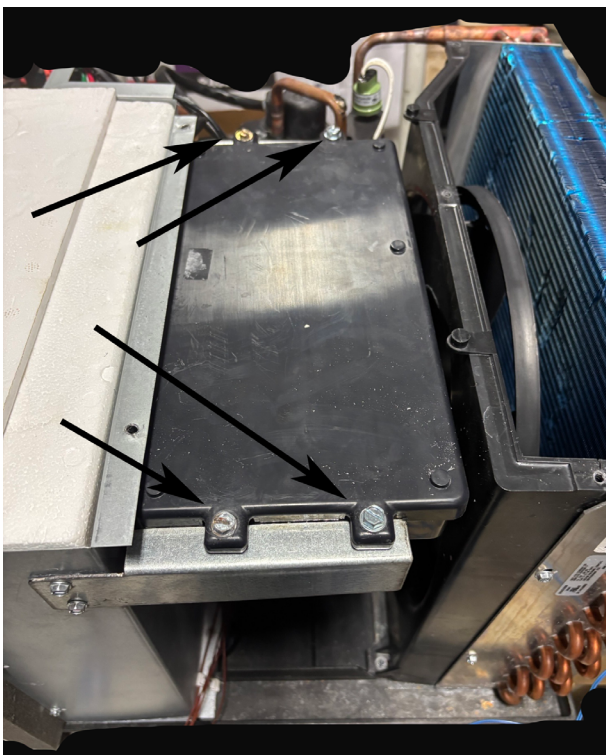

Figure 716 (Remove Mounting Screws)
7. Reinstall Main PCB cover and install the 4 mounting screws. (Refer to figure 716.
8. Reinstall top cover. (Refer to figure 716)